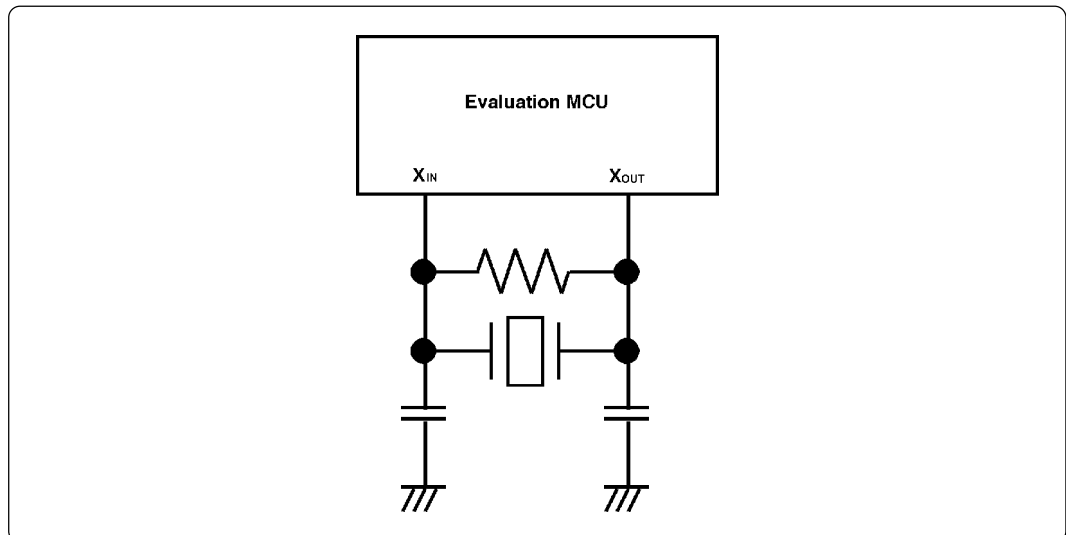

Figure 3.3 Circuit in which oscillation does not occur (same for X_{CIN}-X_{COUT})
- Make note of the fact that in the oscillator circuit shown in Figure 3.3 where a resonator is connected between the X_{IN} and X_{OUT} pins, oscillation does not occur because a flexible cable, buffer IC and other devices are used between the evaluation MCU and the target system. It is same for sub-clock oscillator circuits (X_{CIN} and X_{COUT}).
(2) Changing the Internal Oscillator Circuit of the Emulator